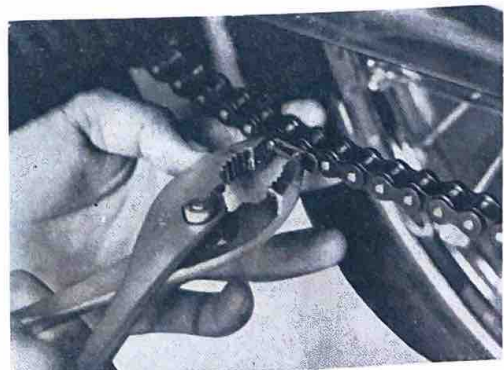

Fig. 3-1-10
10. Disconnect the chain master link and remove the chain from the drive (front) sprocket. (Fig. 3-1-10)